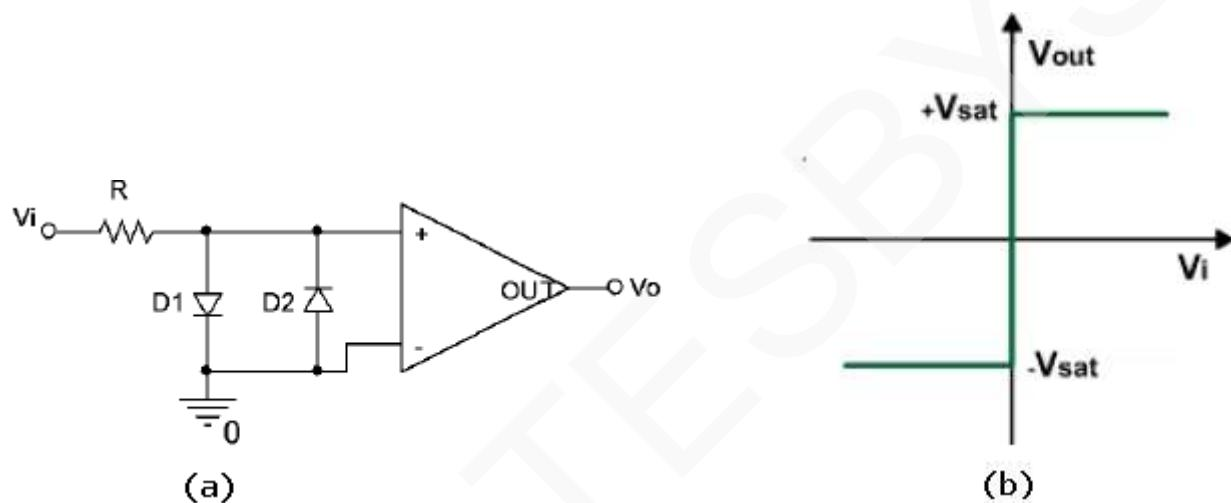

Figure 17.38: Non-inverting zero-crossing detector
- In **non-inverting zero-crossing detector**, input-voltage more positive than zero produces a positively saturated output-voltage (Figure 17.38).